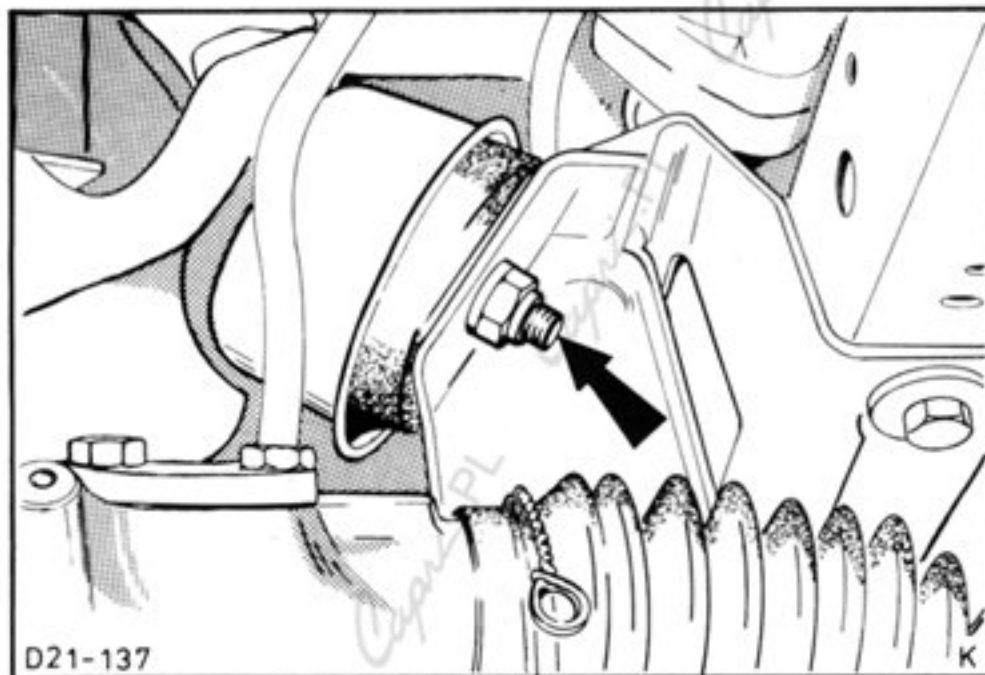

Fig.76. Unbolt insulators - engine mountings.
3. Unbolt both engine mounting insulators from the crossmember (2 nuts), Fig. 76, and remove clutch housing cover.